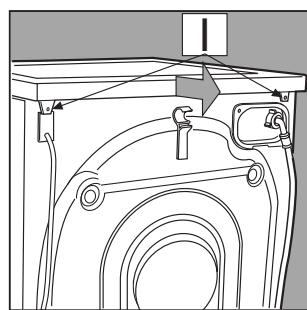

Fig. 3
- 2. Remove the covering lid by unscrewing the two screws I, and then pull it towards you** [fig. 3].